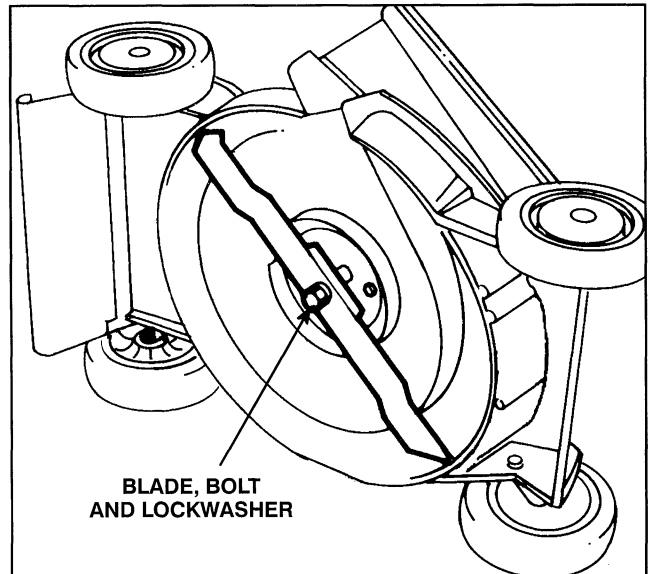

Figure 14
3. Tip mower on its left side (Fig. 14).
5. **REMOVING BLADE**—Grasp end of blade using a rag or thickly padded glove. Remove blade bolt, lockwasher, and blade (Fig. 14).